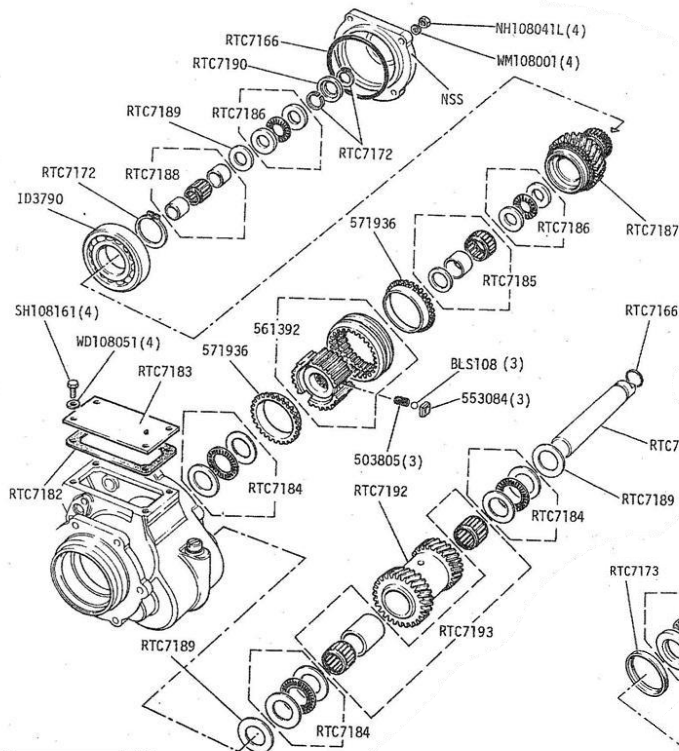

figure 2
2. Remove the top cover plate (RTC7183, fig. 2).
1. Remove circlip and collar (RTC7172 and RTC7190, fig. 2)
2. Remove the next circlip, then the axial bearing group (RTC7186, fig. 2) consisting of two hardened races and the bearing cage, and finally the pack of shims (RTC7189, fig. 2). These serve to adjust the end float of the whole main-/outputshaft assembly.
3. Remove the input gear assembly (RTC7187, fig. 2) together with the ball bearing (ID3790, fig. 2). It should come out easily as it is designed to be a loose fit. Should problems be experienced however, warming the housing with a blow torch will normally free it. If no such tool at hand, leave it in until the output gear shaft has been taken out, then tap it out from inside the housing. Take care not to lose the needle bearing and the two distance sleeves inside (RTC7188, fig. 2)
4. Remove the second axial needle bearing group and the radial needle bearing (RTC7186 and RTC7185, fig. 2). Take the synchromesh cone out (571936, fig. 2)
The inner race (RTC7185, fig. 2) is a light press fit on the mainshaft and holds the mainshaft in its position inside the output gear shaft.